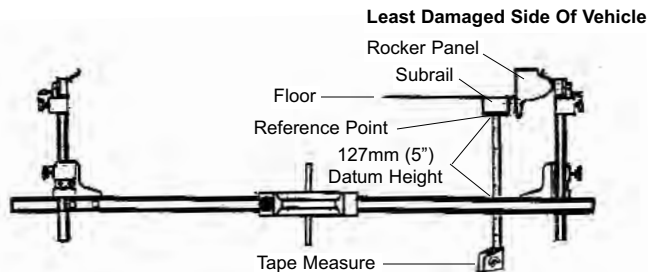

Figure 62
6. Remeasure the distance from the reference point on the least damaged side of the vehicle to the top of the horizontal bar. (See Figure 62.) If the top of the bar is not at datum height — in this example 127mm (5 inches), repeat the procedure until the desired datum height is achieved and the height of each gauge scale is equal.